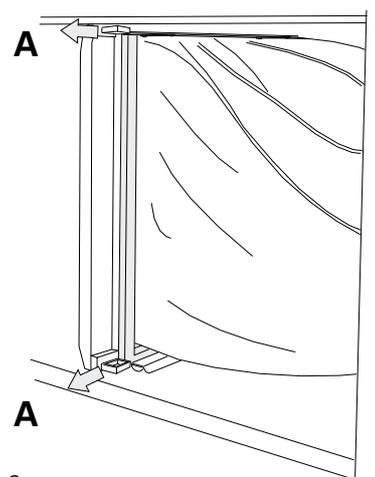

Fig. 6
- Pull the handles (**A** in Fig. 6) at the upper and lower edges of the filter mounting bracket outward, to open the off-centre guide.